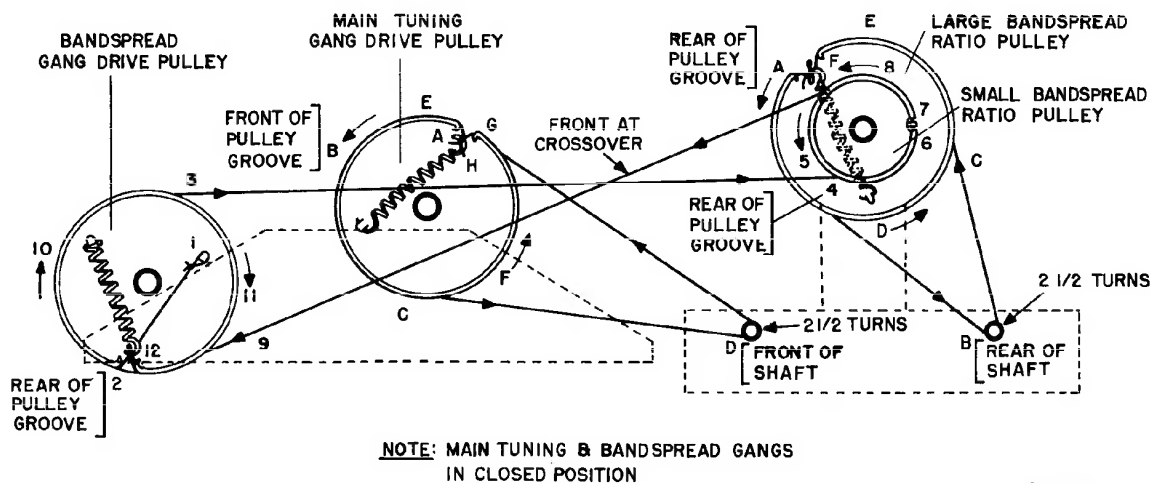

FIG. 2. DIAL CORD STRINGING PROCEDURE
The dial drive system of the S-76 consists of three separate string drives: (1) bandspread tuning gang drive (2) main tuning gang drive and (3) large bandspread ratio pulley drive. Refer to Fig. 2 for diagram of dial stringing. All restringing should be done with the main tuning and bandspread gangs full-meshed.